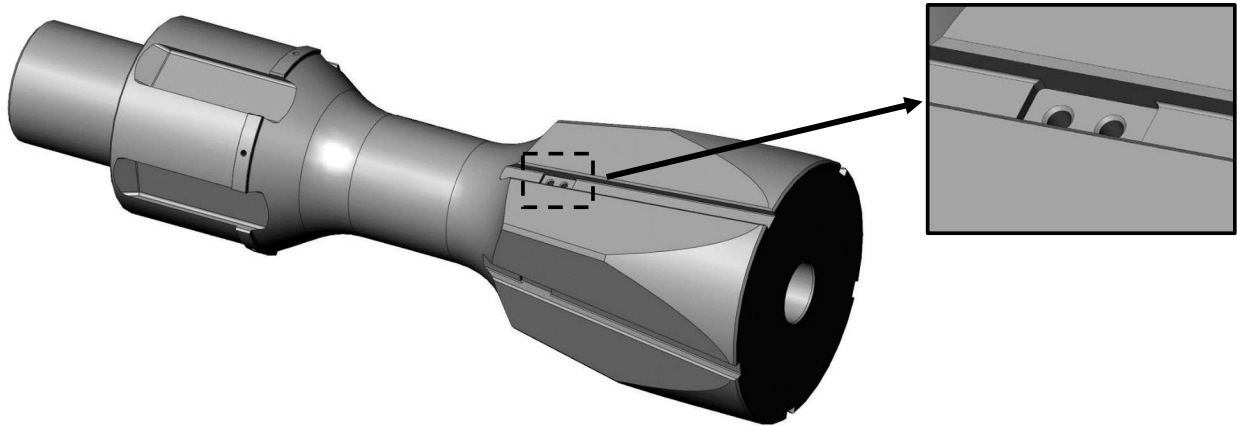

Figure 3
2. Modification of 'on-hand' Mandrel(s) – P/N: 860207 Rev. 0 – See Figure 3.